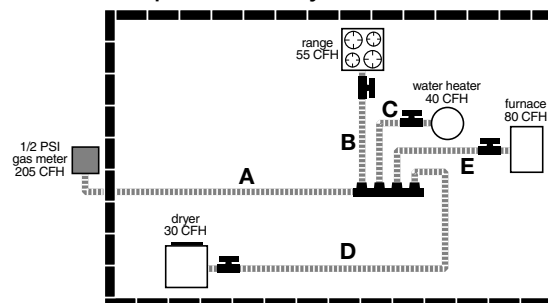

Figure: 3-2
1. The system shown in Figure: 3-2 is typical